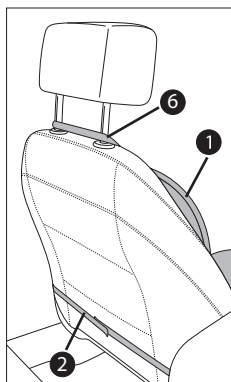

Fig. 2
- ▶ If the backrest is extremely high or wide, secure the seat cushion as shown in Fig. 2.
- ▶ If your vehicle is equipped with side airbags, please ensure that the securing straps **6** are only pulled over the head restraint supports and not over the top part of the car seat when securing the seat cushion **1** (see Fig. 2). Otherwise the side airbag may be affected!